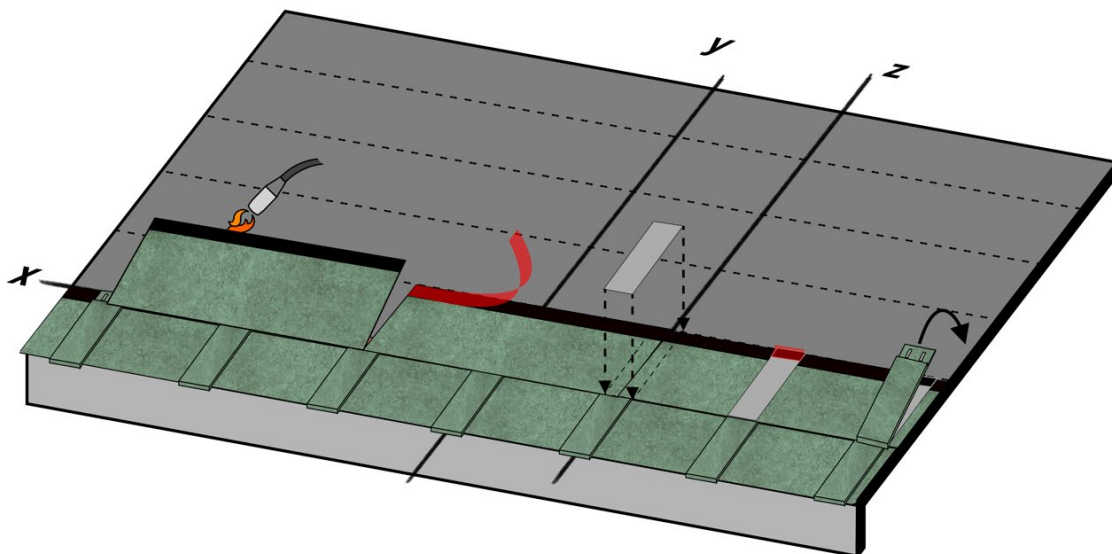

Fig. 22 - Second row shingles installation by torch
- Proceed with the installation of the second row of shingles: align the lateral edge of the first shingle on the vertical **z** and the upper edge on the horizontal line 29 cm from **x** - see Fig. 22. Fix the shingle to the membrane using the torch and lifting the top of the shingle with a tool, Fig. 22. The self-adhesive upper strip of the first-row shingles will fix the shingles of the upper row. Move forward installing all the shingles, the Compact Strips and the Compact Clips of the row.